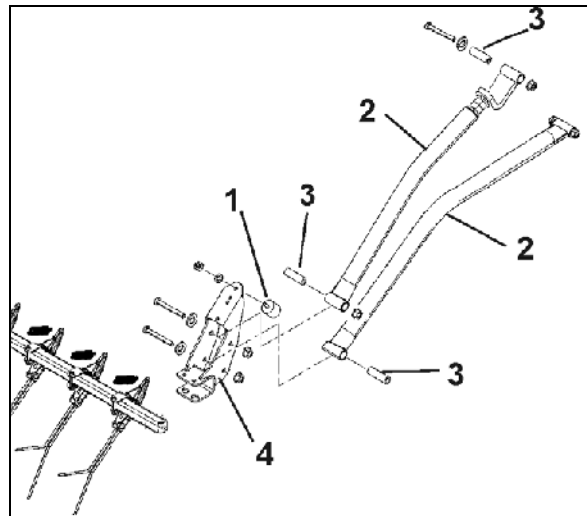

Fig. 36
- Bolt on swing-metal buffers (Fig. 36/7).
- Bolt the carrying tubes (Fig. 36/2) by using bearing sleeves (Fig. 36/3) on to the brackets (Fig. 36/1, 2) and sockets (Fig. 36/4) of the exact harrow.